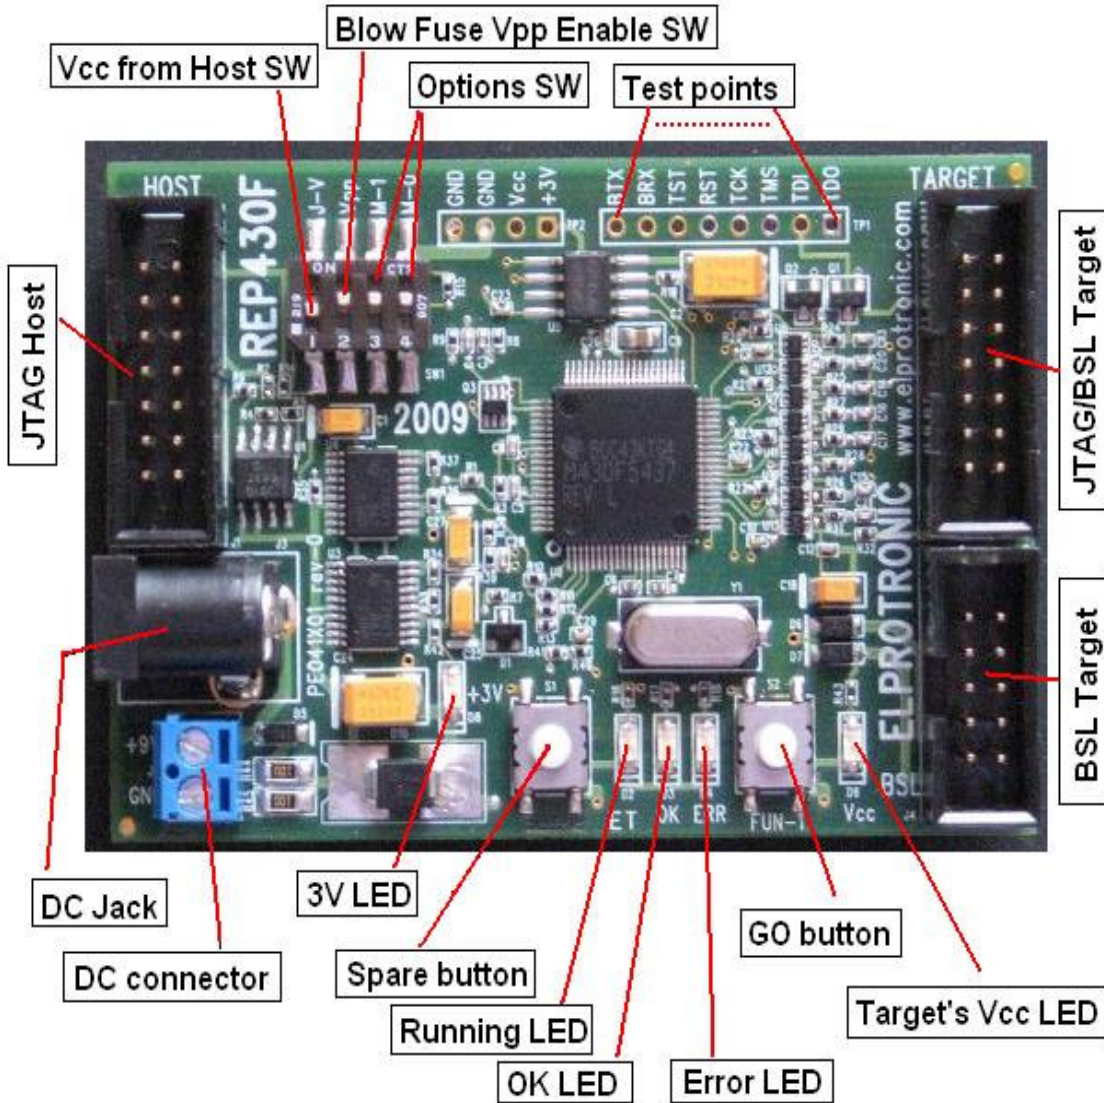

Figure 4.1
The Figure 4.1 shows the major parts of the **REP430F** replicator. Detailed schematic and PCB layout are presented on Figures 4-3, 4-4, 4-5, 4-6, 4-7 and 4-8. BOM is presented in the table on page 19.
- * Terminal block power supply. Ground should be connected to the GND terminal on the power connector (see Figure 4.1). A 4-10V supply can be connected to the “9V” terminal.
- * Power supply from the Host JTAG connector. Ground should be connected to pin 9 and the Vcc (2.5 to 3.6V) taken directly from the Host JTAG adapter connected to pin-2 of the Target’s connector. Switch “*Vcc from Host SW*” should be on “*ON*” position (see figure 4.1)